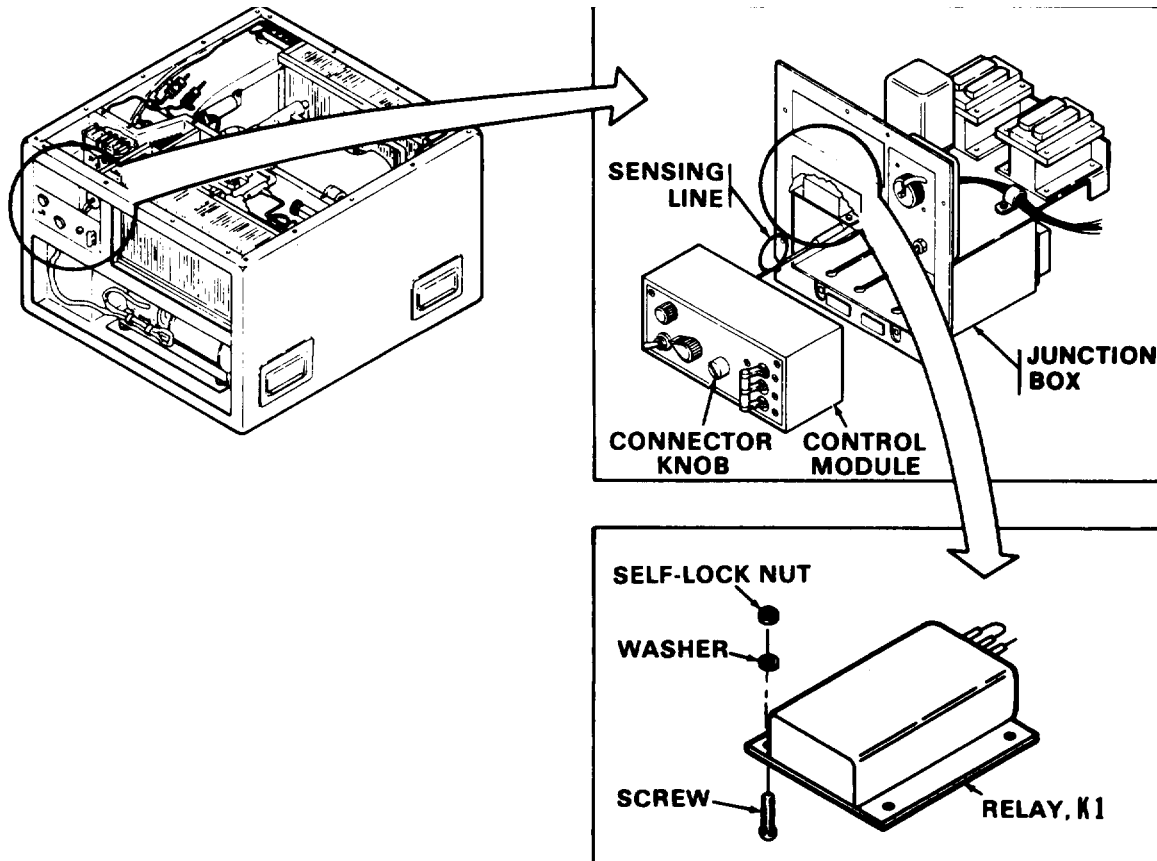

Figure 4-14. Time Delay Relay.
- (1) Refer to paragraph 4-29 and remove the junction box.
- (2) Refer to figure 4-14 and remove the time delay relay.
- (1) Refer to figure 4-14 and install the time delay relay.
- (2) Refer to paragraph 4-29 and install the junction box.